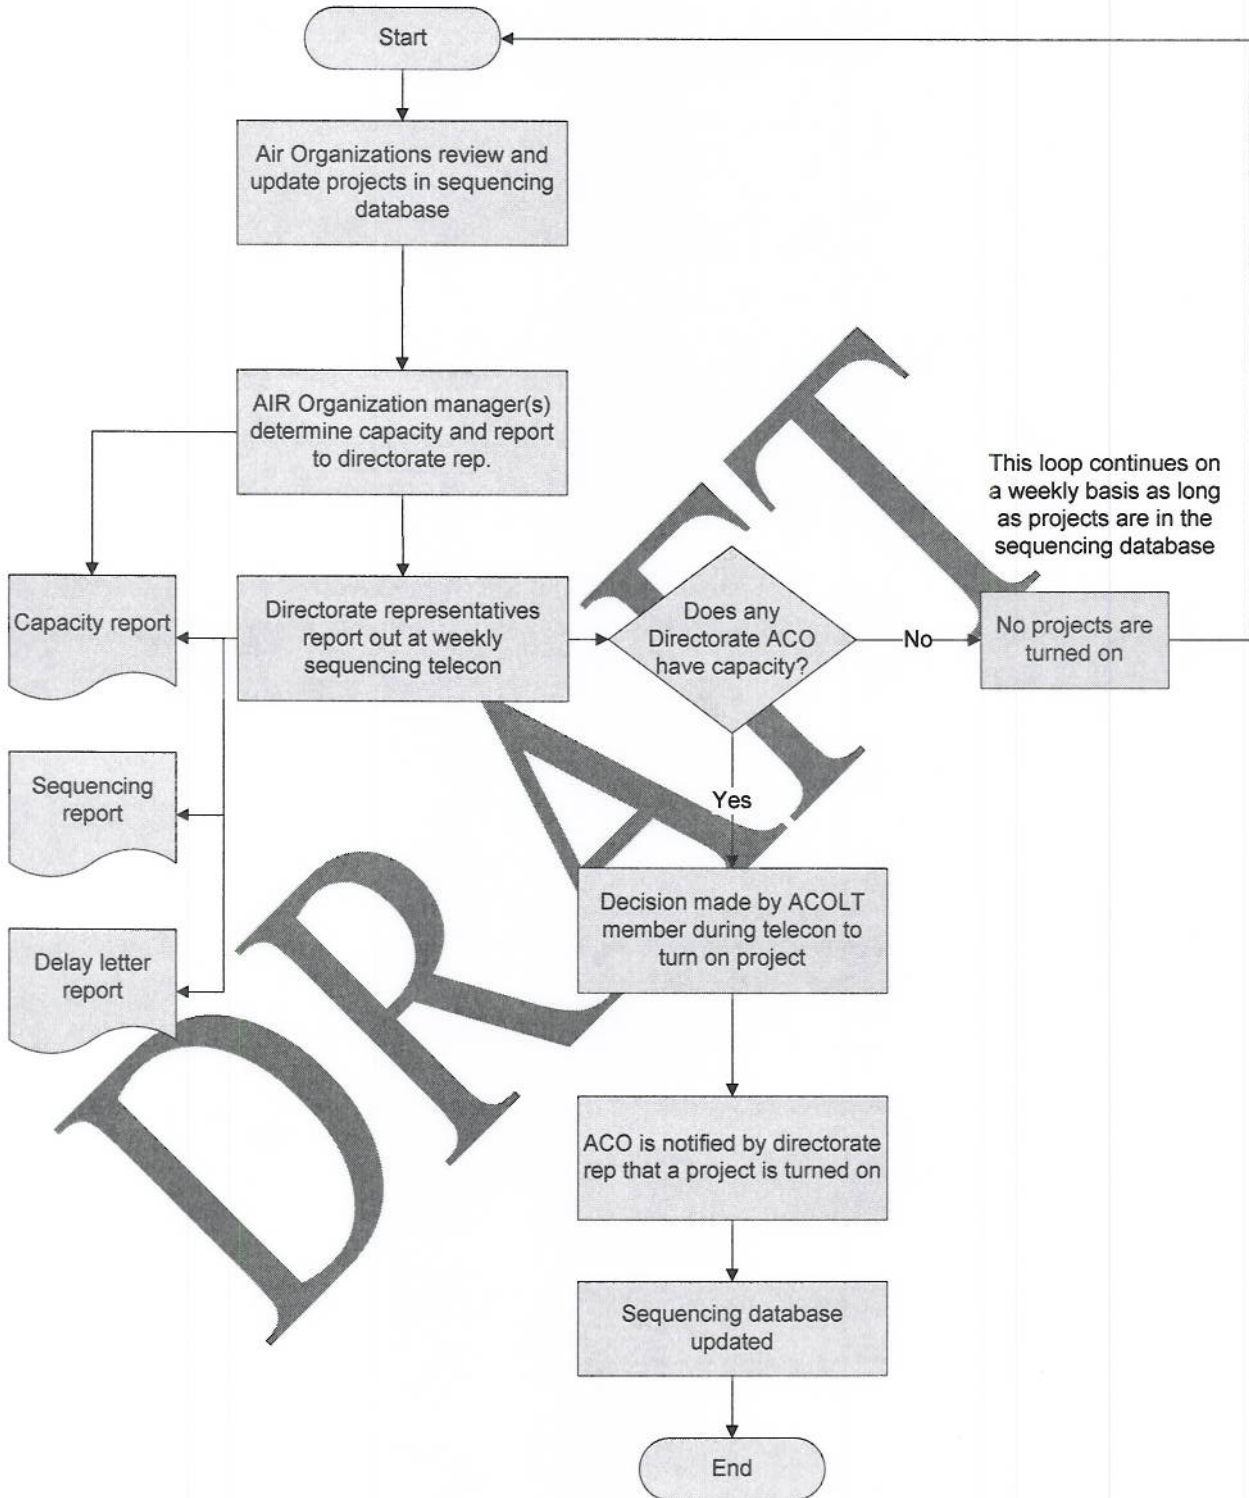

Figure 4 Project Reviewed in Sequencing
- (1) A weekly telecon is held to discuss capacity, new projects submitted, closed/canceled projects, projects ready to be turned on and the delay letter report, see Figure 4.
- (2) The project is delayed in sequencing until resources are available and open projects nationwide are evaluated.
- (3) Subsequent standard delay letters, see Appendix 5, are sent to the applicant/bilateral partner every 90 days until the project is turned on. If a non-standard delay letter is to be sent to the applicant, it must be approved by AIR-2.
- (4) During the weekly sequencing telecon the directorate representatives report their ACOs' capacity to work new projects based on the capacity report in the National User Database.
- (5) Projects in sequencing are sorted by Category, CSI, date received and CCI.
- (6) When resources are available to work a project, the project with the highest CSI is turned on, provided that the skill set required for the project matches the skill set for which an AIR organization shows capacity. The organization that received the project and, if applicable, the transfer organization working the project are notified by the Directorate representative.
- (7) If the receiving office has determined that some necessary resources are unavailable for a given project, the Directorate representative will report to the receiving office if other offices have available the needed resources. In such cases, the receiving office will contact the office with available resources to determine suitability of virtual teaming arrangements.